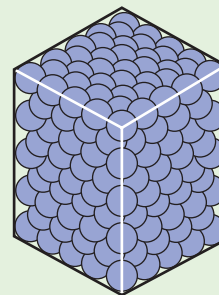
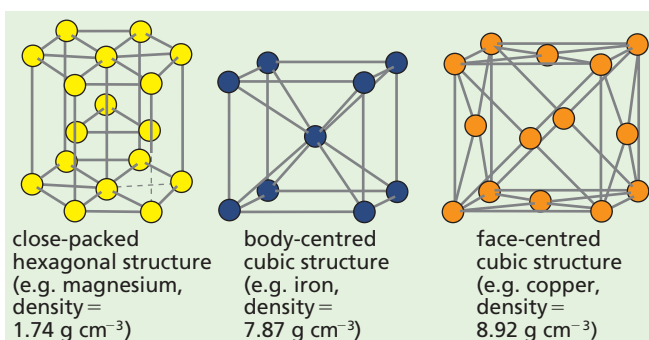

Figure 3.42 Arrangement of ions in the crystal lattice of a metal.
Figure 3.43 Relating different structures to the density of metals.
- They have high densities because the atoms are very closely packed in a regular manner as can be seen in Figure 3.42. Different metals show different types of packing and in doing so they produce the arrangements of ions shown in Figure 3.43.